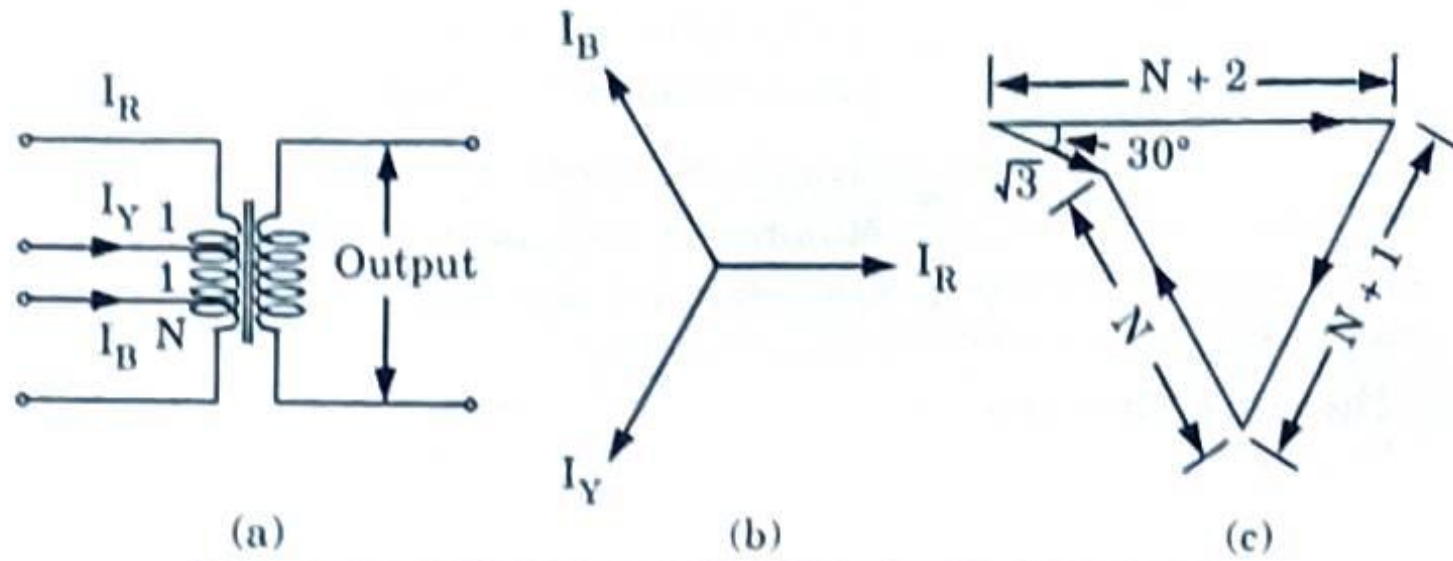

Fig. 1.12.1. (a) Summation transformer
3. Fig. 1.12.1(a) shows a schematic diagram of a summation transformer where the primary windings are connected to the output terminals of the line CTs, Fig. 1.12.1(b) and Fig. 1.12.1(c) show corresponding phase diagrams.